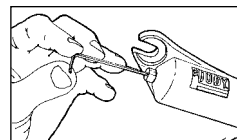

Fig. 3
1. Insert a 3mm hex wrench through the hollow shaft bolt in the bottom of the left leg (turn the red external knob on the Judy SL). (See Fig. 3)